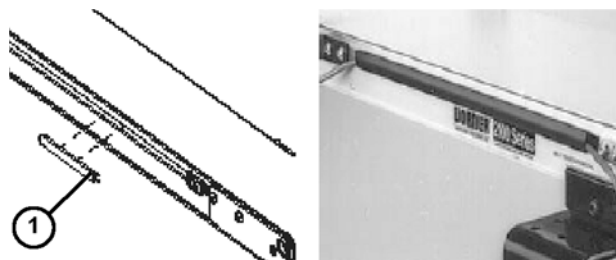

Figure 7
1. To contain a long run of wiring cable in the conveyor t-slot, use several short lengths of t-slot strip closures (**Figure 7, item 1**).